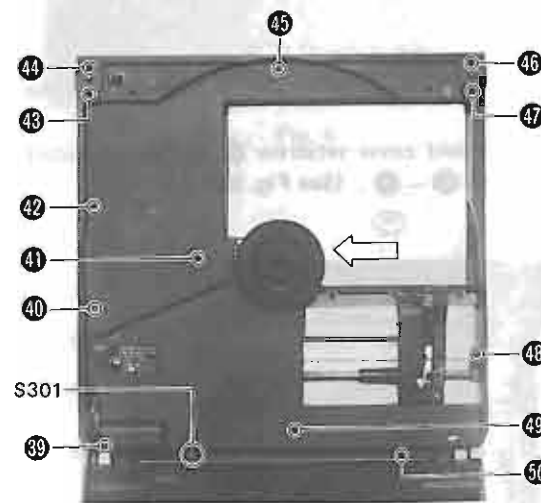
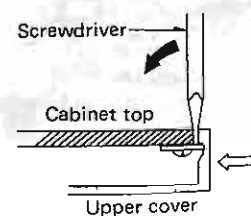

Fig. 13
Fig. 14
Remove the upper cover setscrews ⑨ ~ ⑩; insert a screwdriver between the cabinet and upper cover as in Fig. 14 from above the cabinet (near arrow in Fig. 13); then push the screwdriver in the direction of the arrow to remove the upper cover.
Note: When mounting the upper cover, make sure that the part of Fig. 14 is engaged with the upper cover and that the cover switch (S301) is outside the cover.